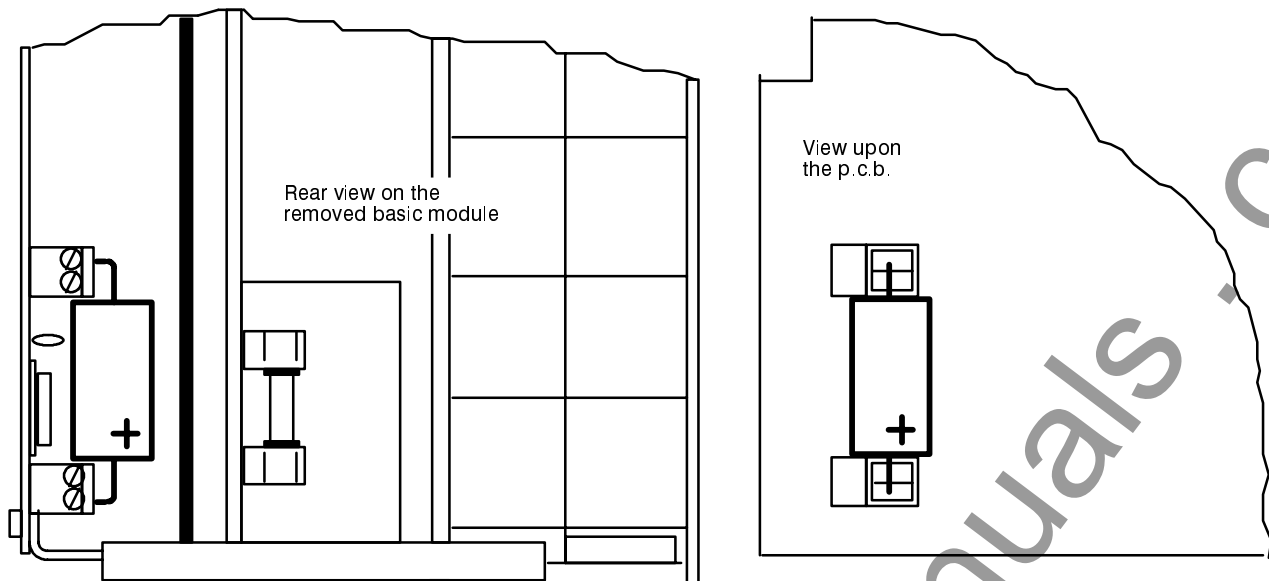
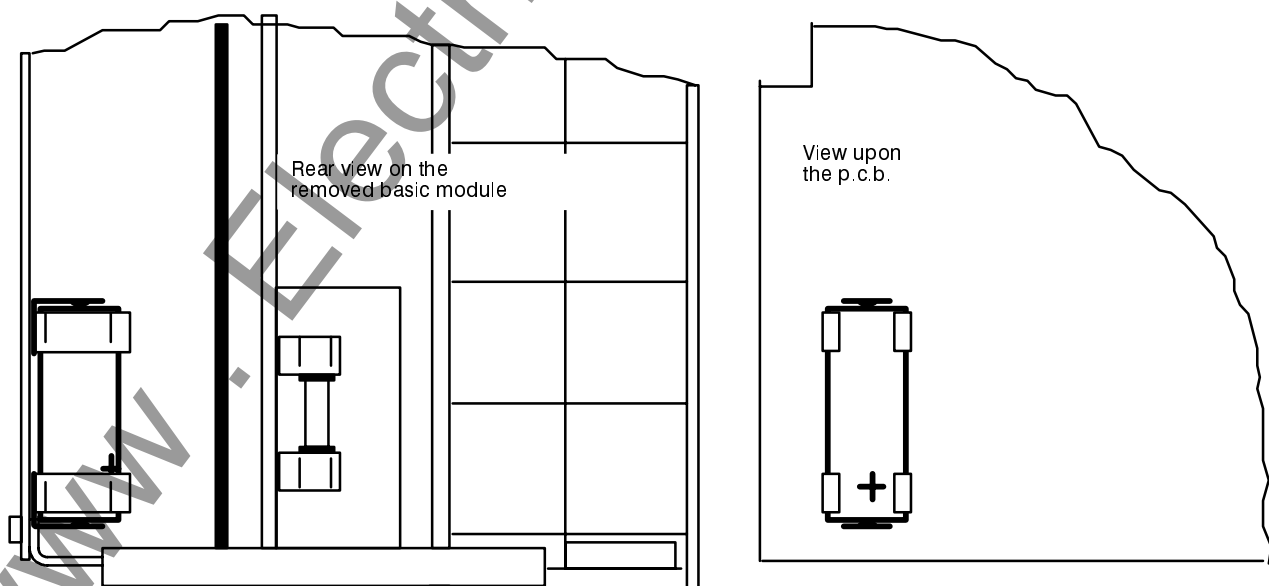

Figure 7.2 Installation of the back-up battery for relay up to production series /JH
Figure 7.3 Installation of the back-up battery for relay from production series /KK
- Unscrew used battery from the terminals or remove it from the holder; **do not place on the conductive surface!** Refer to Figure 7.2 for relay until production series **/JH** and to Figure 7.3 from production series **/KK**.
- Insert the prepared battery into the terminals or holder as in Figure 7.2 (until production series **/JH**) and tighten the screws or as in Figure 7.3 (from production series **/KK**).